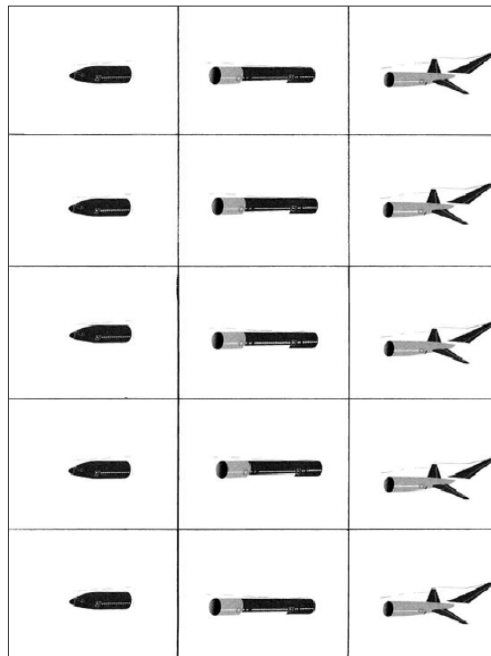

Figure 16.3.1: Boeing 787 fuselage with cutting lines (not to scale, see Worksheet 6).
- Obtain a sheet with five Boeing 787 fuselages, each divided into three sections as in Figure 16.3.1.